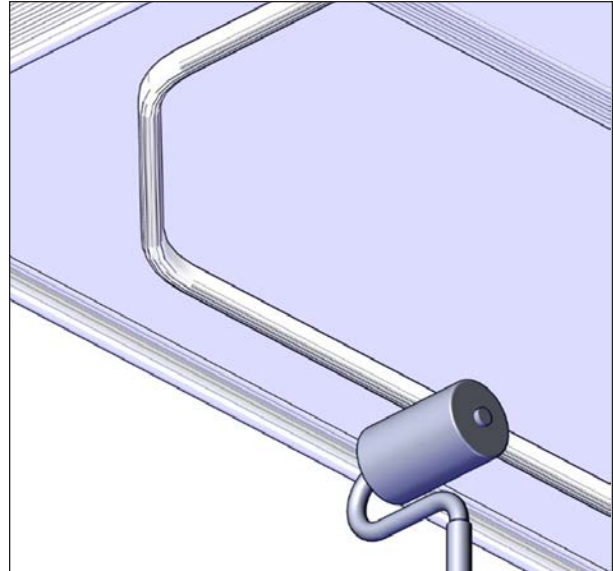

FIGURE 77: APPLY PRESSURE WITH ROLLER
12. Once satisfied that the seal is released, lift up the cover 36" (91 cm) high. Apply a minimal pressure of 15 psi (103 kPa) on the seal with the roller as shown in Figure 77 to properly bond the adhesive to the underside of the cover.